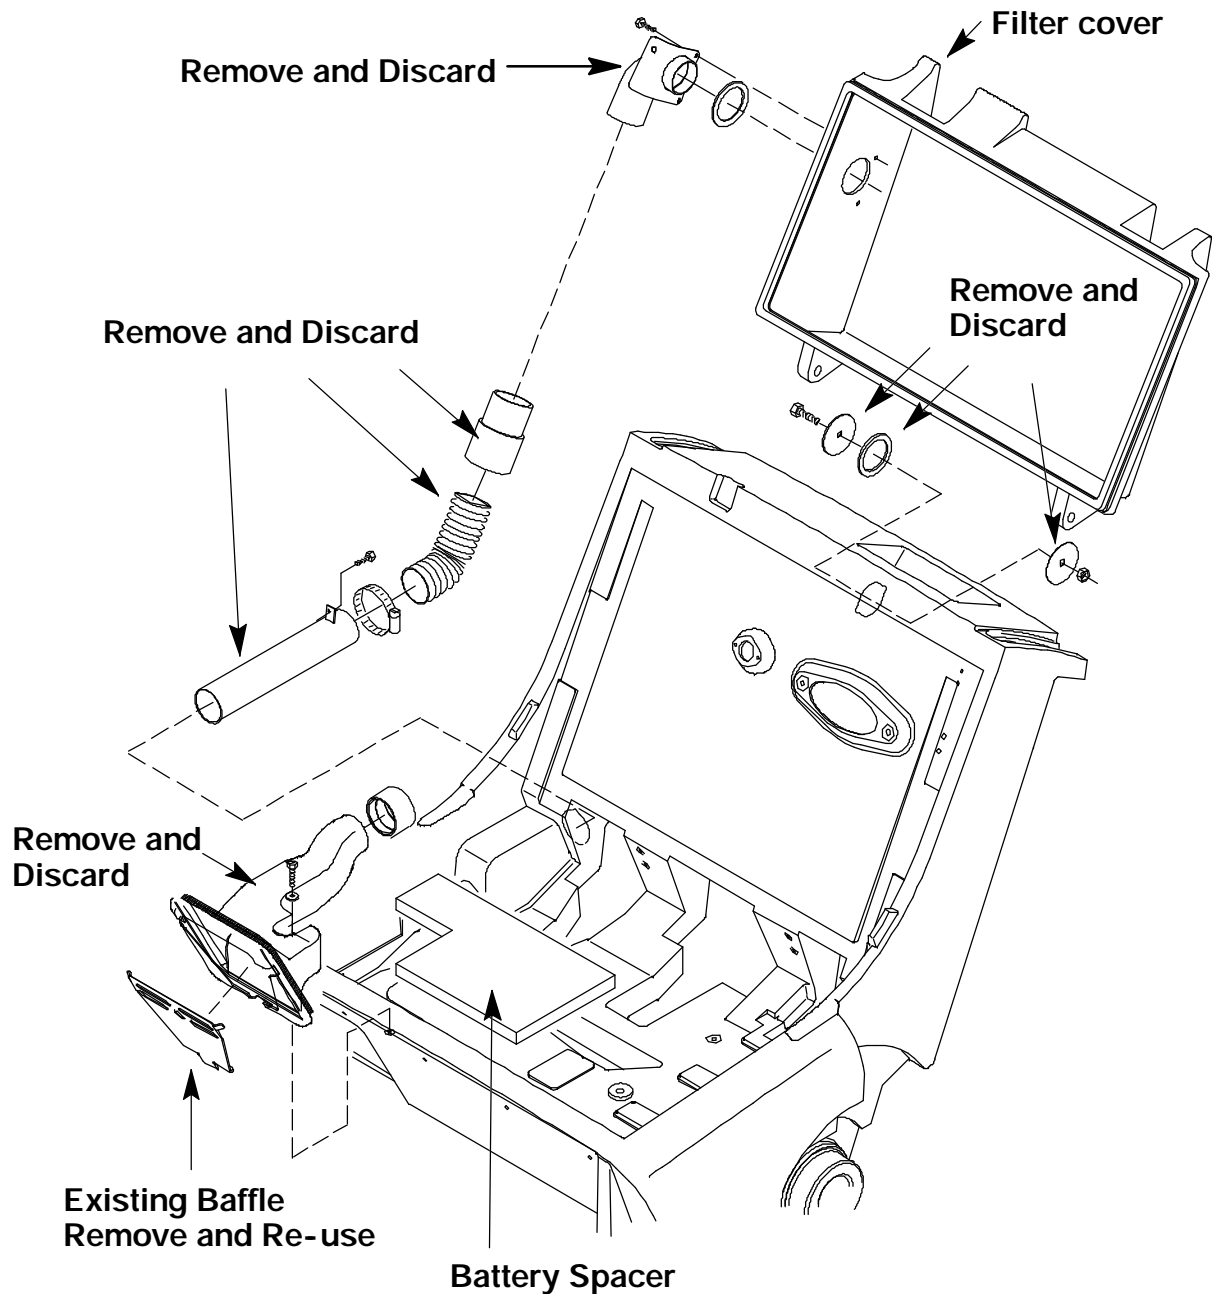

FIG. 1 High Air Flow Assembly Removal
(Refer to FIG. 1 thru 6)
(Refer to FIG.1)
(Refer to FIG. 1)
2. Remove and discard the the hose elbow coupling from the filter cover. (Refer to FIG. 1)
3. Remove and discard the washers and seal from the frame. (Refer to FIG. 1)
5. Remove and discard the battery spacer. (Refer to FIG. 1)
7. Remove the hex screw holding the existing vacuum chamber in the machine. Remove the vacuum chamber from the machine. Remove the steel baffle from the vacuum chamber. Discard the vacuum chamber. Install the steel baffle into the new vacuum chamber (5). (Refer to FIG. 1 and 2)